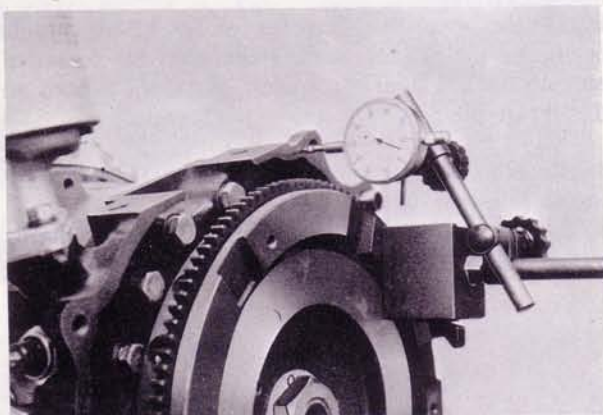

Fig. 1-81 Checking end play
11. Apply a dial indicator onto the flywheel as shown in Fig. 1-81. Move the flywheel fore and aft, and note the reading of the indicator. The standard end play is 0.04 ~ 0.07 mm (0.0016 ~ 0.0028 in).